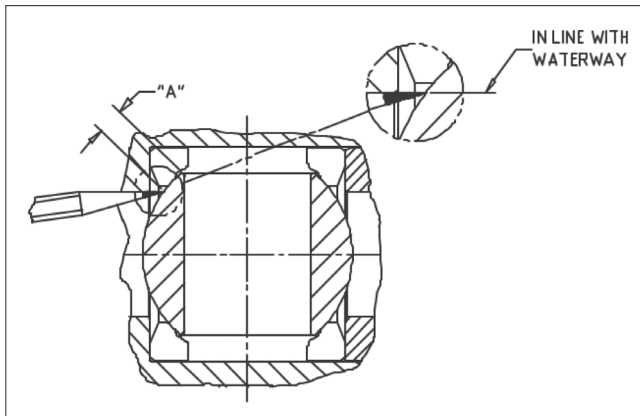

Figure 7. Correct Ball Position
- B. Valve closed position: With the valve in the closed position against the stops, make a pencil mark on the ball as in Figure 7. Open the valve and measure *Dimension A*. The measurement should deviate no more than $\pm 1/32$ " (0.79mm) of Dimension A given in **Table 4**.